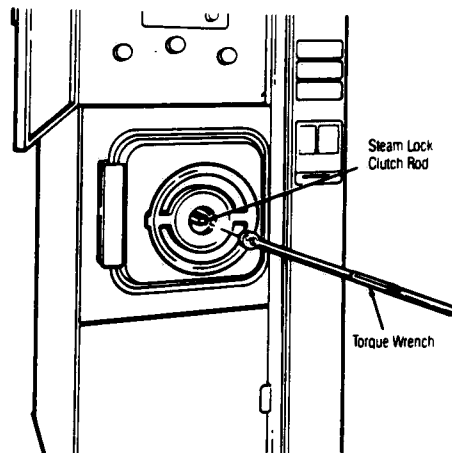

FIGURE 5-4 - Locking Door to Correct Torque
3. Remove center disc. Using a torque wrench on the steam-lock clutch rod, confirm that the torque is 20 ft-lbs. See Figure 5-4.